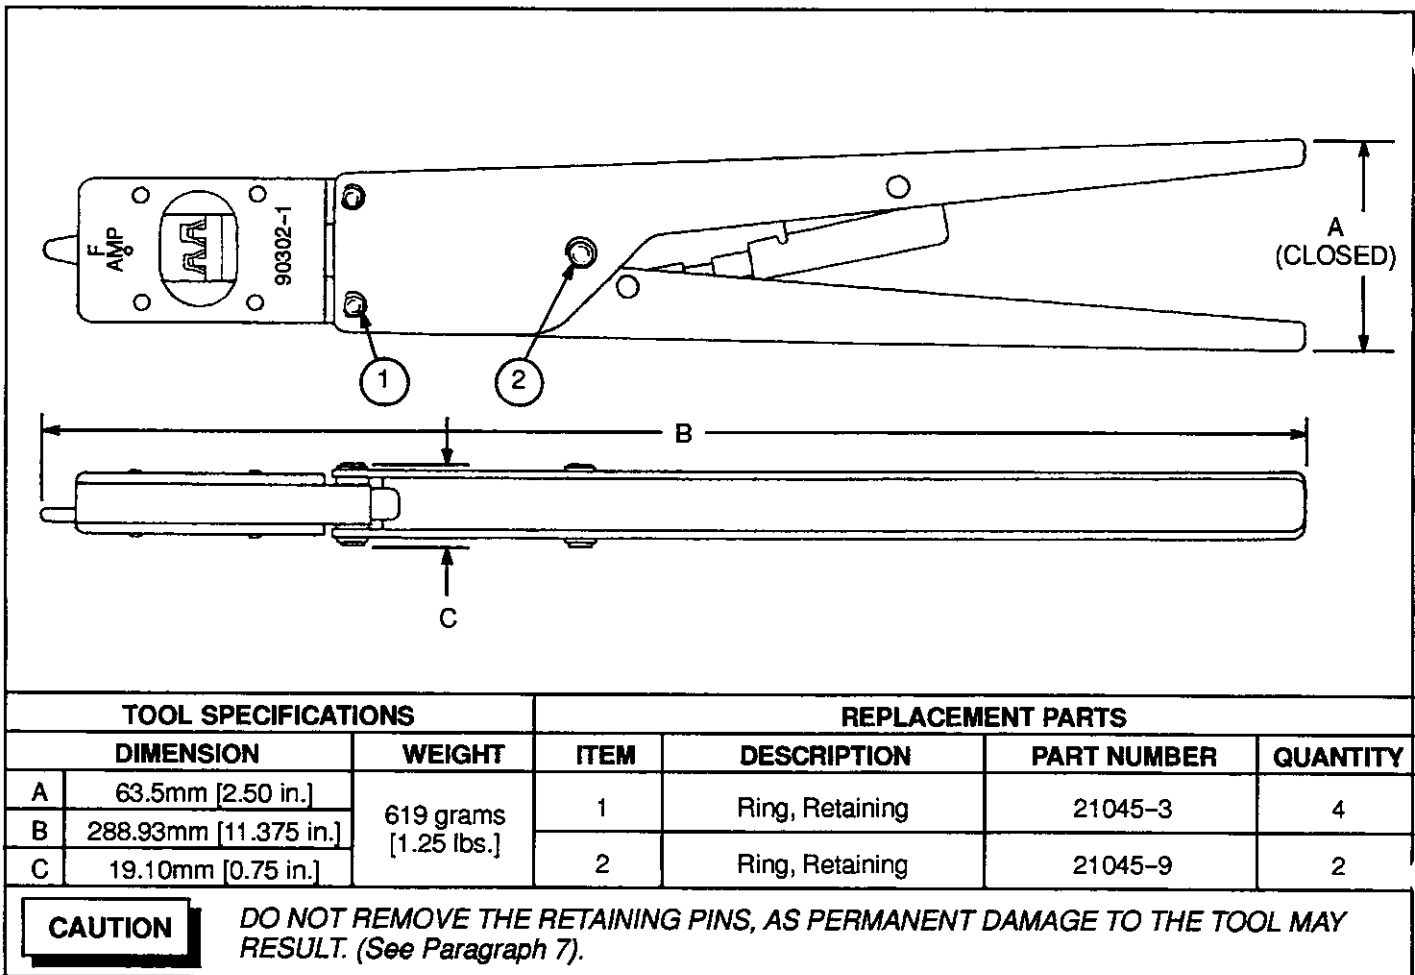

Fig. 4
Customer replaceable parts are listed in Figure 4. A complete inventory should be stocked and controlled to prevent lost time when replacement of parts is deemed necessary. When ordering, order the replacement parts listed in Figure 4 by part number and description, not item number.
2. Make certain all retaining pins are in place and secured with retaining rings. If replacements are necessary, refer to parts listed in Figure 4.
A complete inventory of the customer-replaceable parts listed in Figure 4 should be stocked for immediate replacement. Replacement parts can be ordered from: